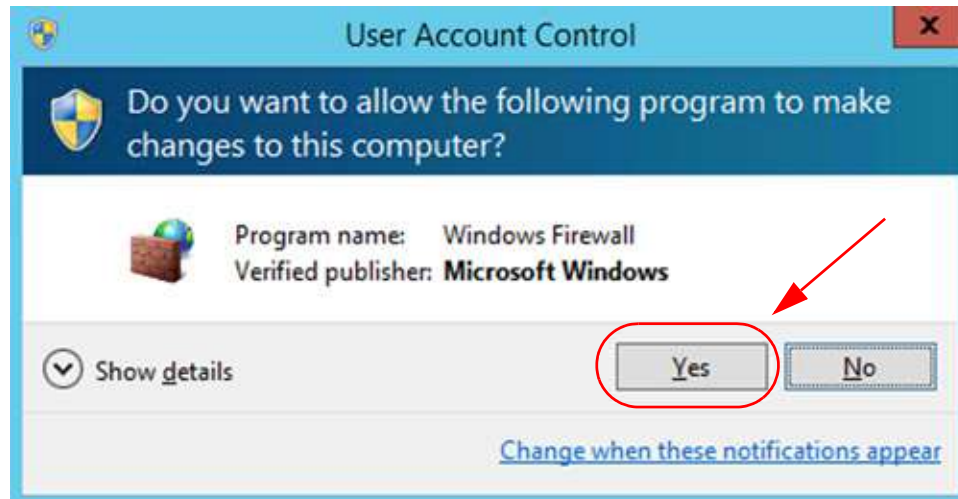

Figure 3.15: Windows 10: User Account Control
5. From the User Account Control screen, select “Yes”. Figure 3.15.